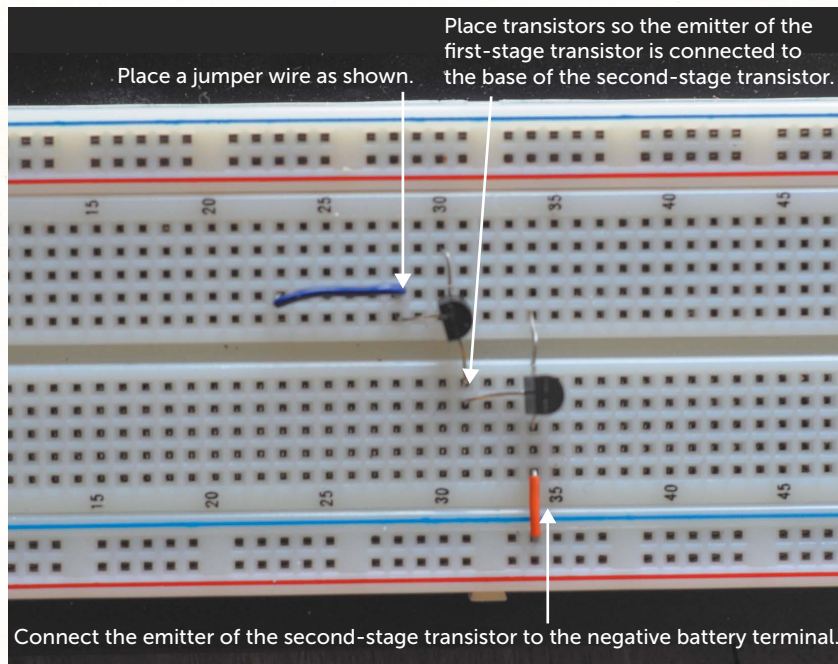

Figure 4.3: Wiring the transistors together
4. Then connect the emitter of the second-stage resistor to the negative battery terminal as shown in Figure 4.3.